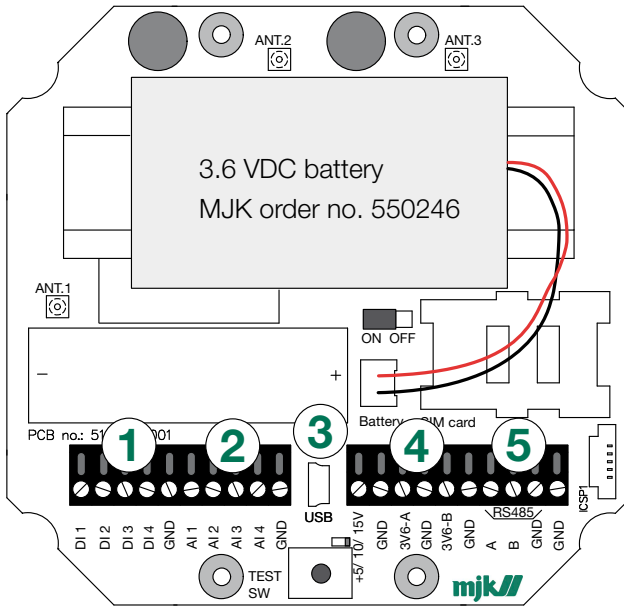

Figure 2. Terminal Blocks for Signal Inputs, Voltage Outputs and Serial Communication
3. Remove the seven TORX screws at the bottom of the green top to access to terminal blocks for digital and analog inputs, voltage outputs and serial data communication (see figure 2 overleaf).
Chatter is equipped with RS-485 serial data communications. See position “5” in Figure 2.